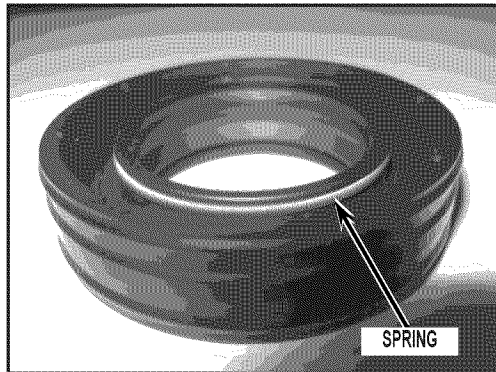

FIGURE 19
31. Newer versions of the seal have a spring around the inside. See *Figure 19*.